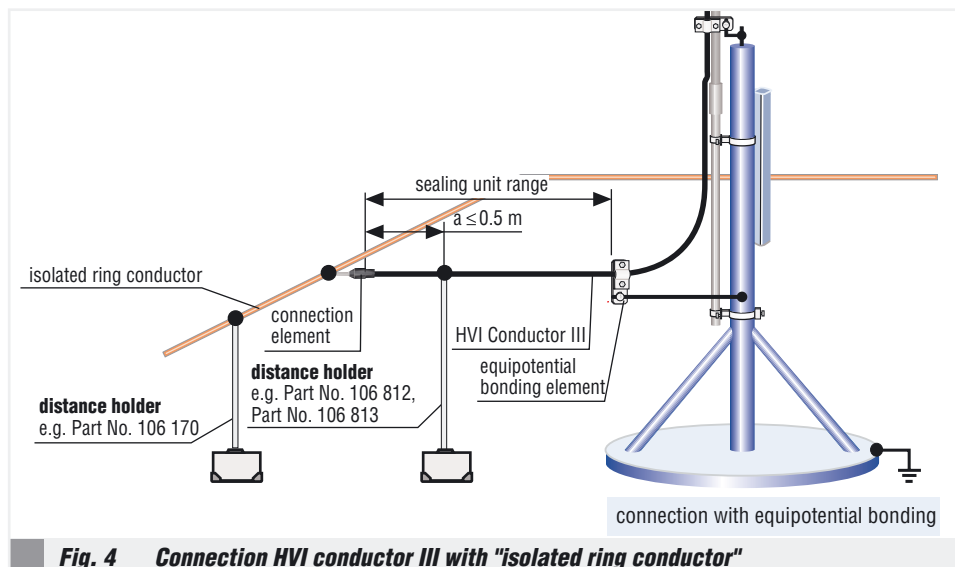
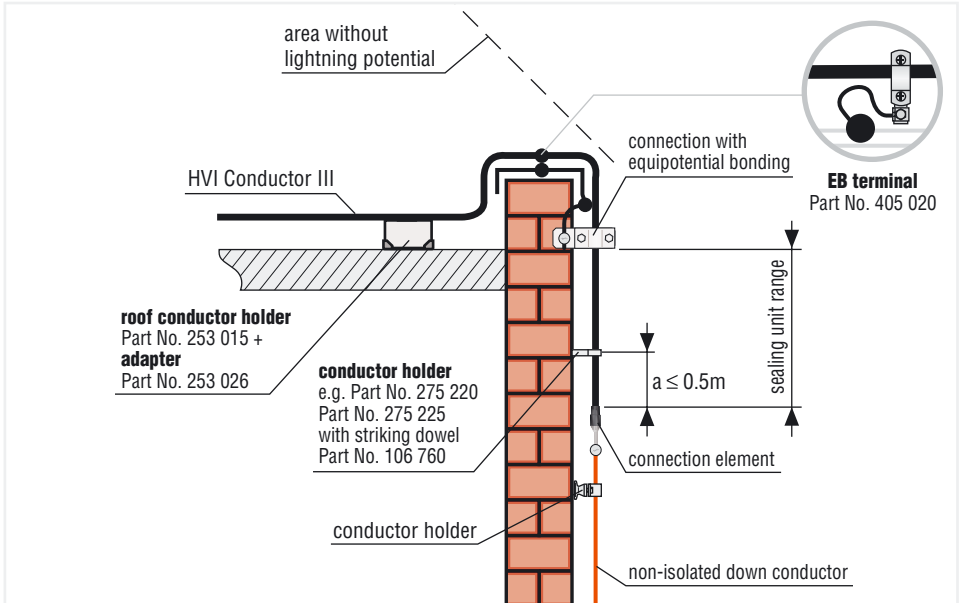

Fig. 4 Connection HVI conductor III with "isolated ring conductor"
Fig. 5 Transition from HVI conductor III to the non-isolated down conductor
HVI conductor III is used e.g. for the common connection of several parts to be protected with the earth-termination system of the building via an "isolated ring conductor" (Fig.4 and section 7 "Isolated Ring Conductor").
The connection element is connected with an isolated ring conductor (Fig. 4) or a non-isolated down conductor (Fig. 5).
- the fixing is only permissible within the range up to $a \leq 0.5$ m, measured from the head piece (Figs. 4 and 5).